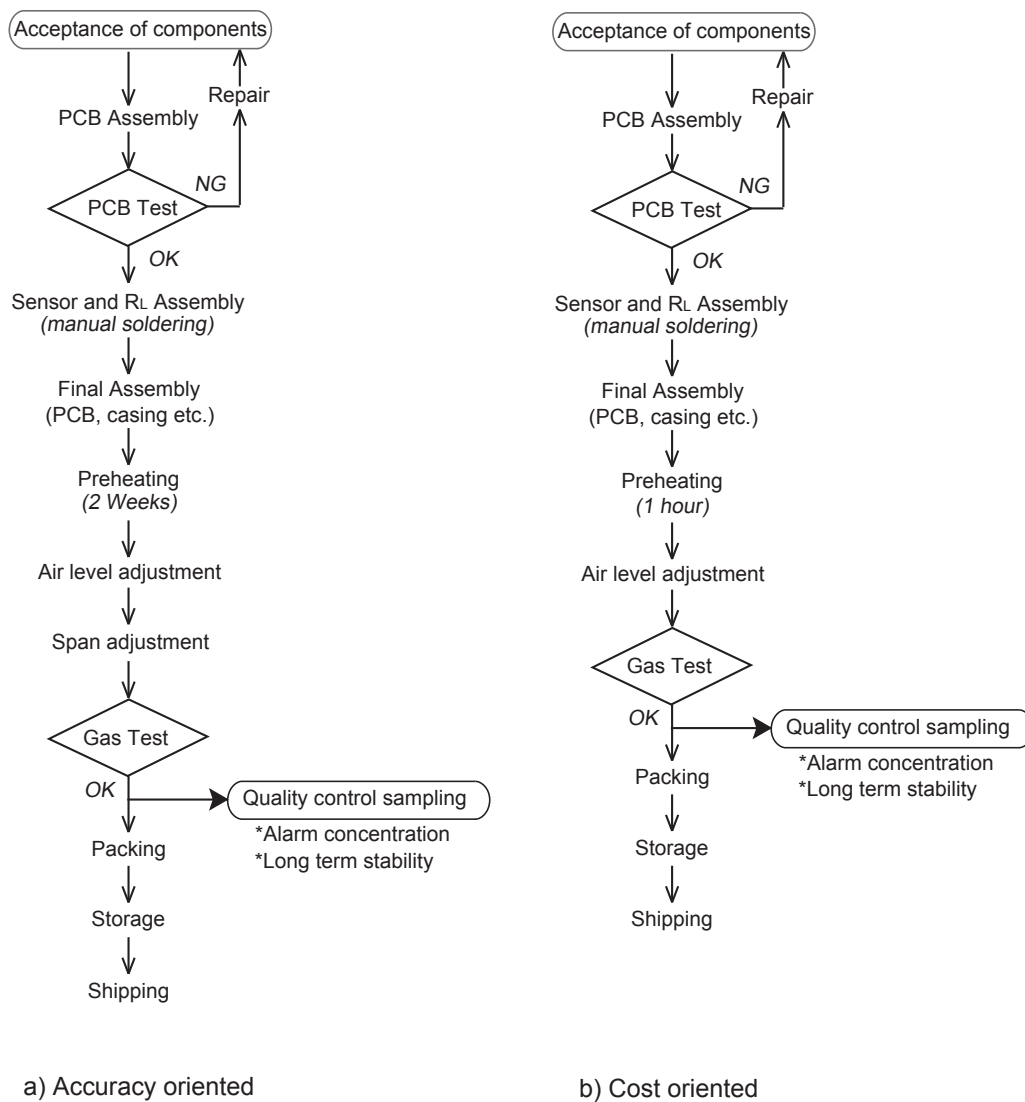

Figure 5 - Manufacturing process flowchart
4. Manufacturing Process Flowchart (Figure 5)